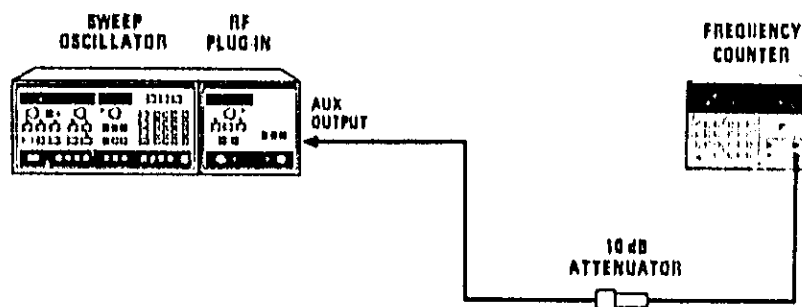

Figure 5-9. Frequency Accuracy Test Setup
1. Connect the equipment as shown in Figure 5-9 with the Frequency Counter connected to the 83590A rear panel AUX OUTPUT connector through the 10 dB attenuator. Allow the equipment to warm up for 1 hour.